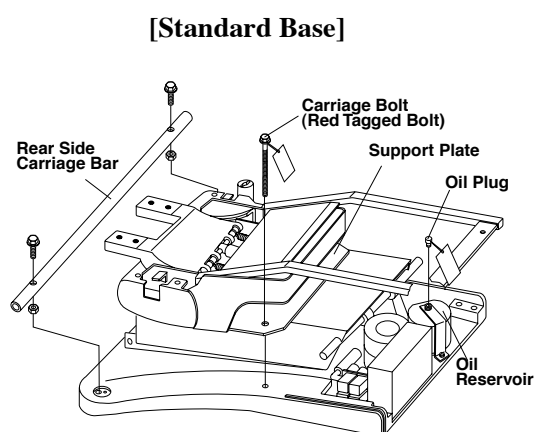
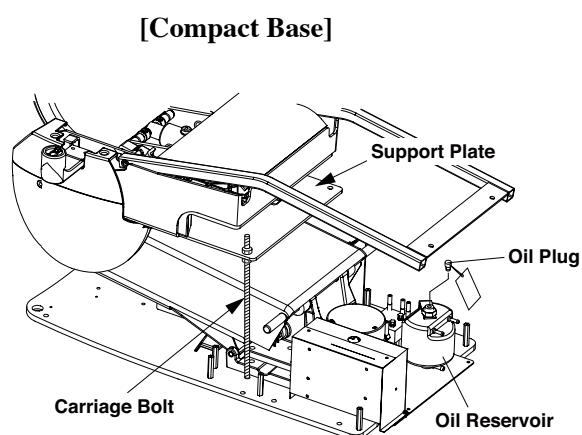

Fig.4-3a Removing Carriage Bolt
Fig.4-3b Removing Carriage Bolt
(4) Remove the rear side carriage bar from the base. (Fig.4-3a)
(5) Remove the carriage bolt (with red tag) from the support plate. (Fig.4-3a)(Fig.4-3b)
(6) Remove the oil plug (with red tag) from the oil reservoir. (Fig.4-3a)(Fig.4-3b)